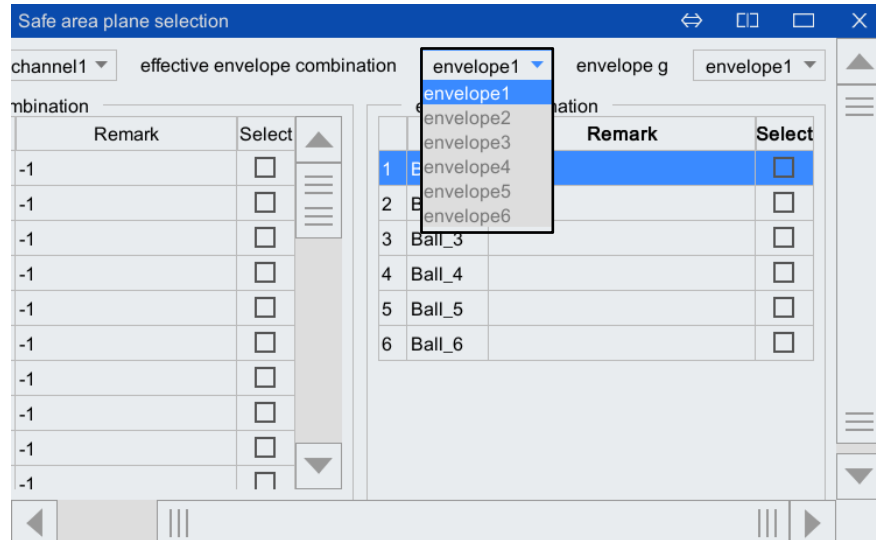

Figure 6-50 Toggle [effective envelope combination]
Step5.After the [Envelope g] is set, you can switch [effective envelope combination] to determine which group of envelopes to use (refer to Figure 6-50).